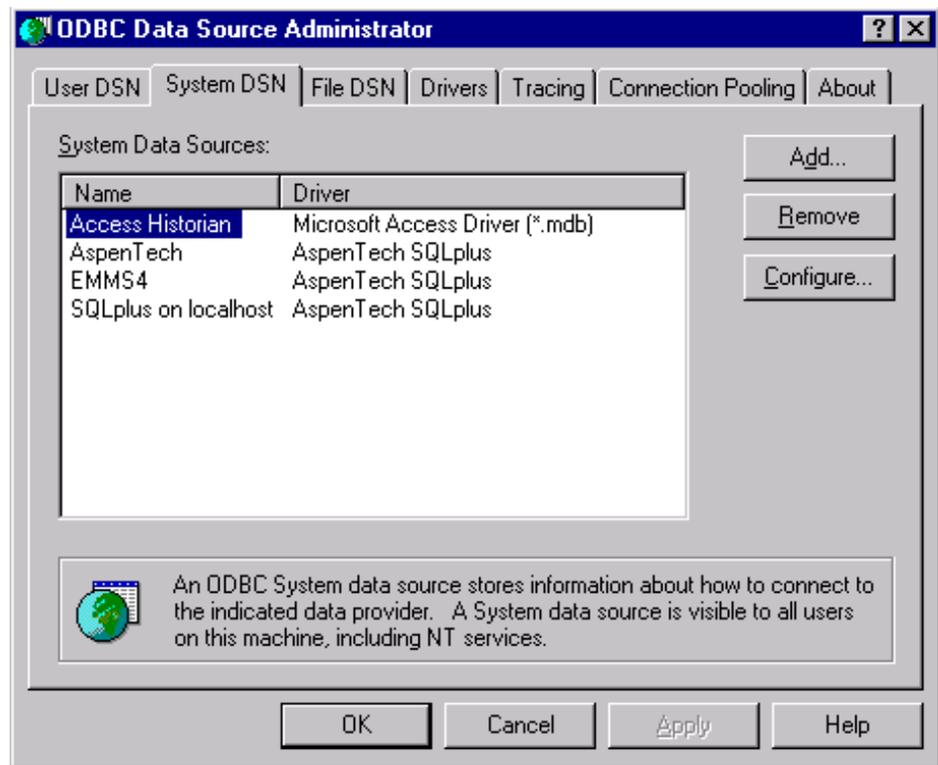

Figure A-5: ODBC Data Source Administrator Dialog Box - System DSN Tab Selected
3. Select the System DSN tab. Figure A-5 shows the ODBC Data Source Administrator (with the System DSN tab selected).
9. Click OK. The ODBC Data Source Administrator dialog box reappears (Figure A-5).